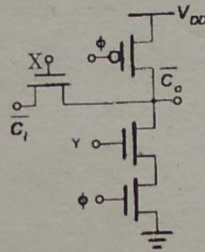

Fig. 2
7. The circuit in Fig.2 shows a carry propagation path in an adder circuit. Let  $A, B, C_i$  are the inputs to adder circuit and  $\phi$  is the clock signal. Write the logic expressions for the signal  $X, Y$  to generate output carry.